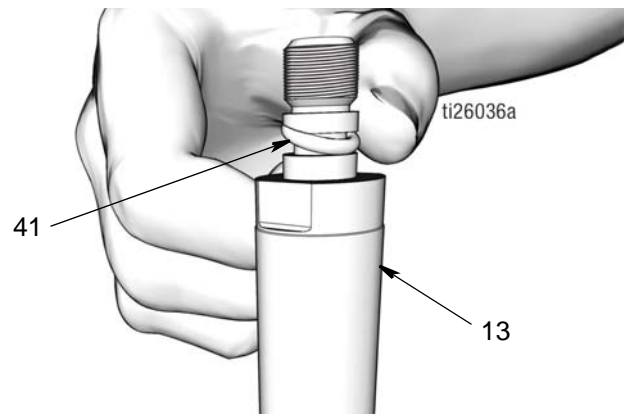

FIG. 49
- a. Use a clean cloth to wipe down the piston rod (13) and piston (6) and remove any dirt or contaminants. Inspect surfaces for any scratches or damage. Replace damaged parts.
- b. Apply a thin layer of grease to o-ring (41). Install o-ring over the grooves of the piston rod (13) (FIG. 49).